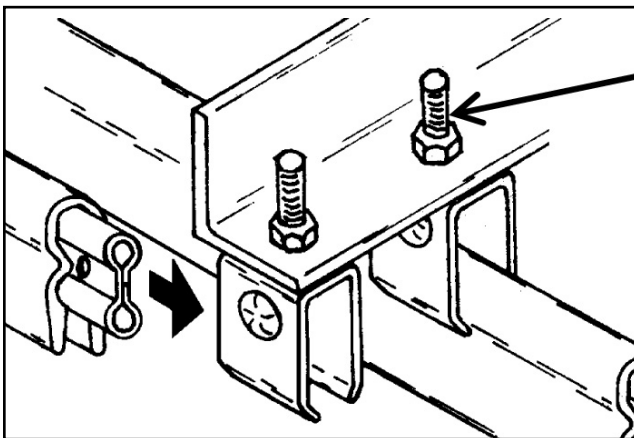

Figure 22-4 Cross-Bolt Hangers
- C. For cross-bolt hangers, torque mounting bolt to 12-14 ft. lbs. after installing all conductor bars. See **Figure 22-4**. See **Table 22-1** for cross-bolt torque specs.